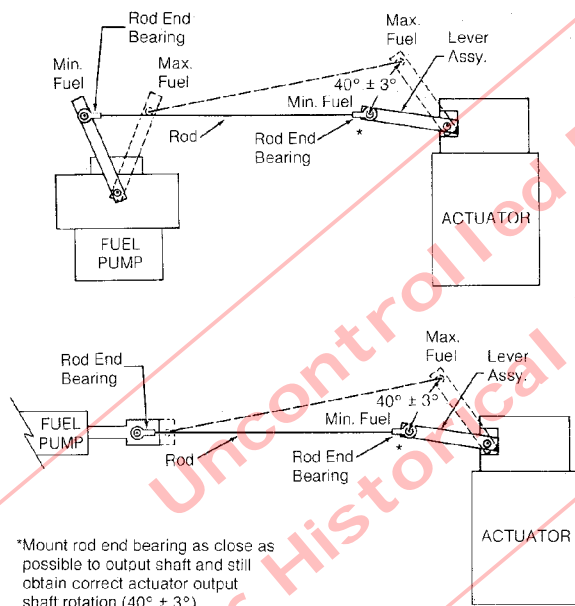

Figure 1. Typical Non-Linear Linkage Arrangements
2. MOUNTING THE ACTUATOR AND LINKAGE. Adjust the linkage rod to allow at least 40° rotation of the actuator output shaft for full travel of the fuel control. Use lock nuts on the linkage rod. See Figure 1 for typical linkage arrangements.